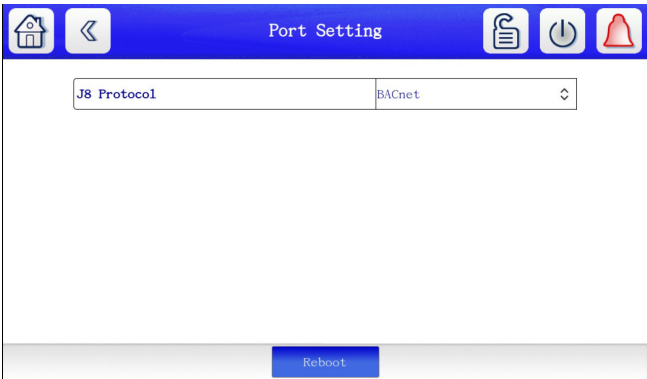

Fig. 9 — Configure Serial Port J8 to BACnet MS/TP
7. Press the up/down arrows to pull down the drop down menu and click on “BACnet” to configure the J8 port to BACnet MS/TP (see Fig 9).